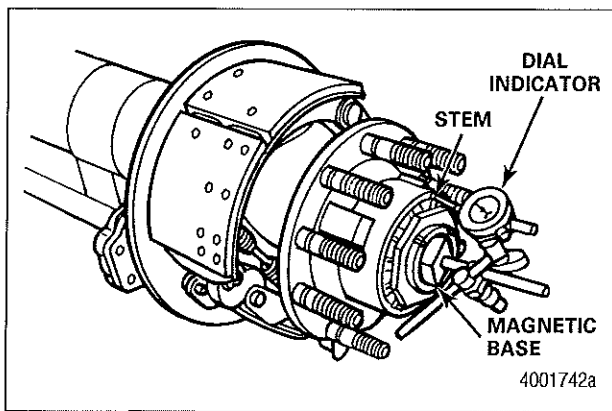

Figure 27
- A. Attach the magnetic base of a dial indicator to the spindle. Touch the dial indicator stem to the hubcap gasket face. Figure 27.